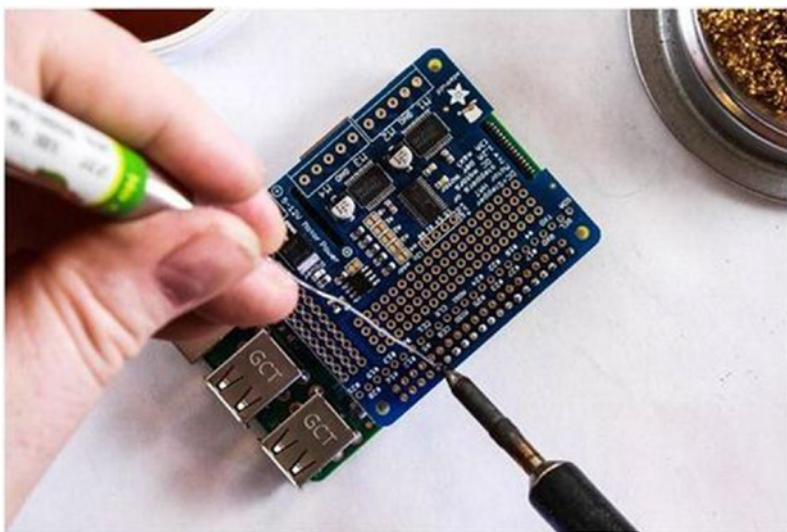

Figure 6-9. Solder the first row of pins
5. Solder the rest of the first row (see Figure 6-9). You want a nice, clean, shiny joint.